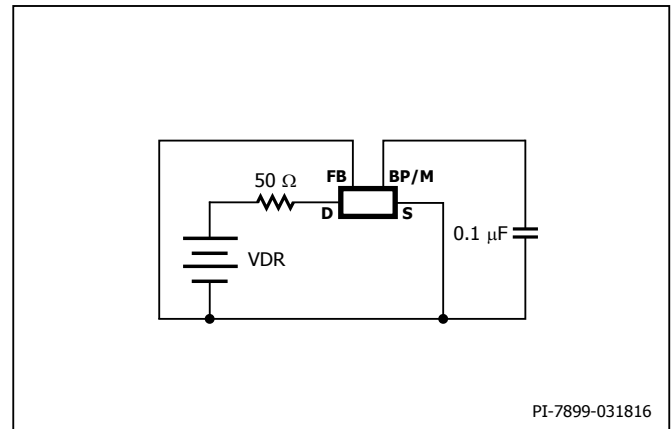

Figure 11. LinkSwitch-TN2 Minimum On-Time Test Circuit.
- Measured using circuit in Figure 11 with 50  $\Omega$  drain pull-up. The width of the drain pulse is measured as the time from  $V_{FALL} = 42$  V to  $V_{RISE} = 40$  V ( $V_{DR} = 50$  V).